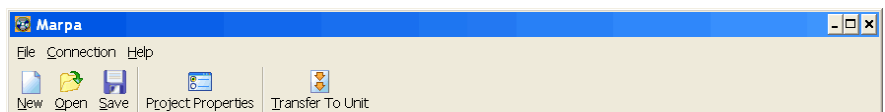

Figure 51 – Buttons on the MARPA tool bar
9) Click the Save button (Figure 51) to save the MARPA project.
- Click the "Transfer to Unit" button in MARPA (Figure 51).